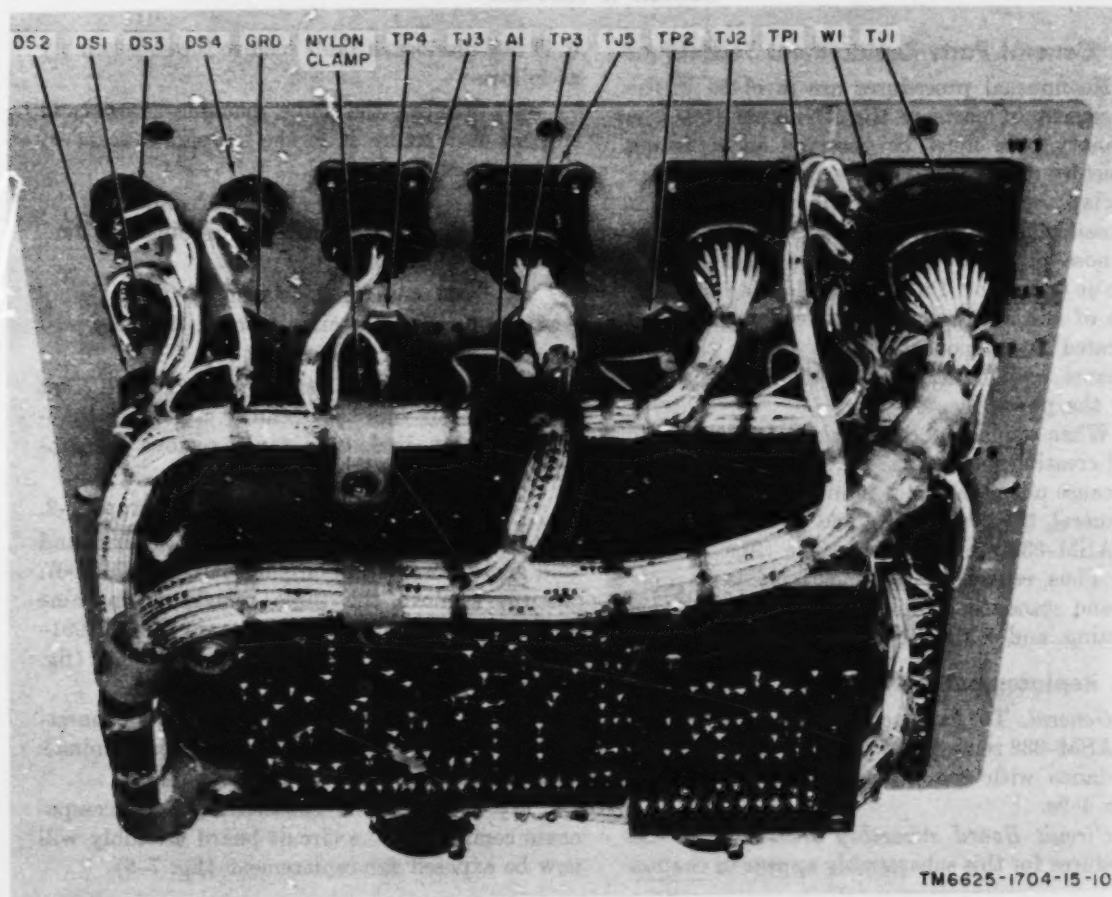

Figure 7-1. Test panel 570-091-018-1, rear view showing test points, indicator lights, and ground bus.
b. When replacing components, be careful to avoid creating mechanical stresses or strains that may cause ultimate, if not immediate, breakdown. In general, the components and structures in the AN/ASM-338 are easily accessible (figs. 7-1 and 7-3). Thus, replacement of such items is no problem, and standard techniques of demounting, remounting, and soldering are used.